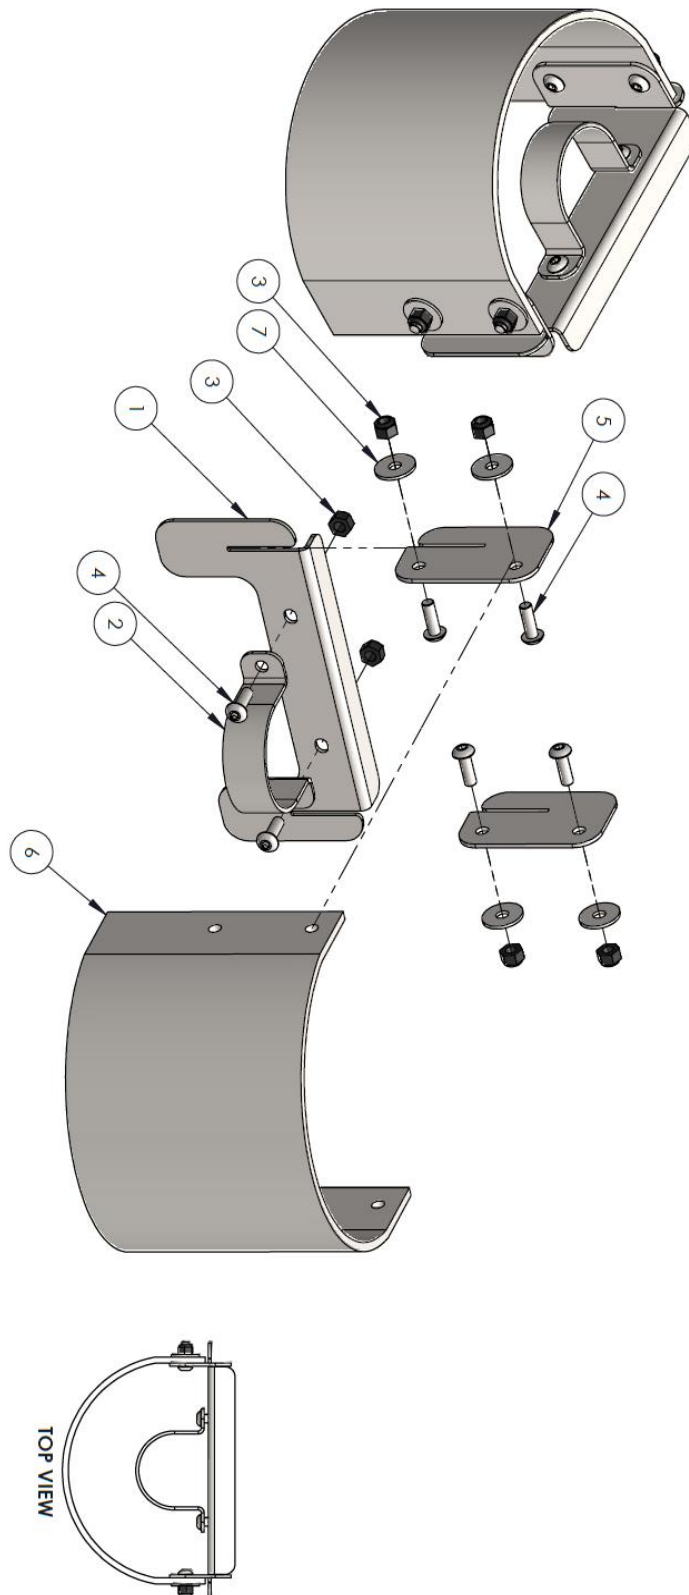

Fig 24 Anti-glare screen components and assembly
1. The components and assembly for the anti-glare screen can be found in Fig 24 on page 34.